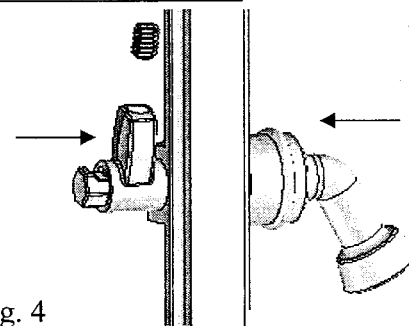

Fig. 4
7.) Firmly hold pawl and handle to compress wave washer. Install and snug first set screw. Do not over-tighten. (Fig. 4)